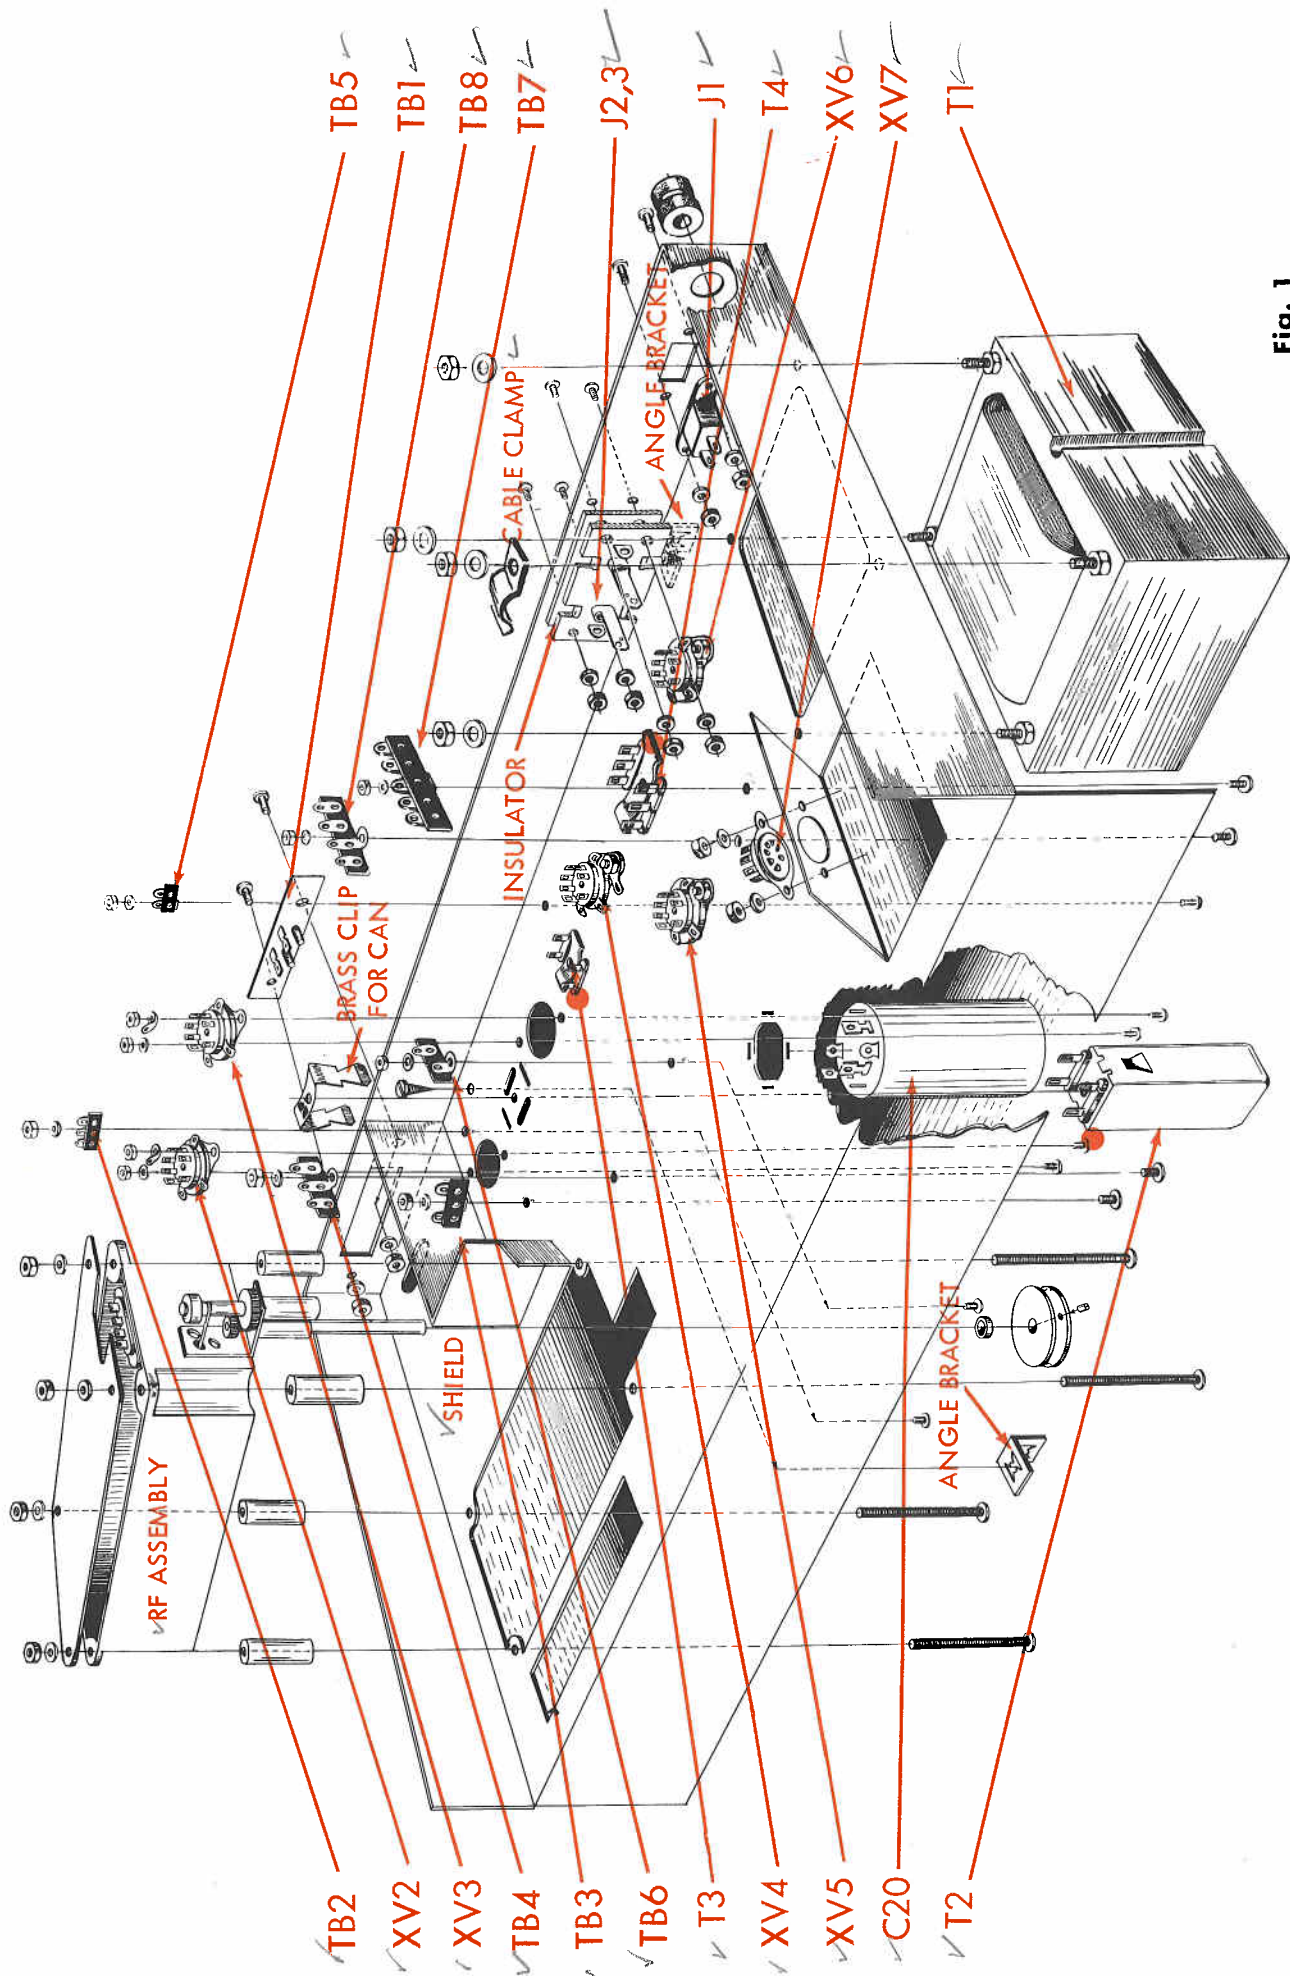
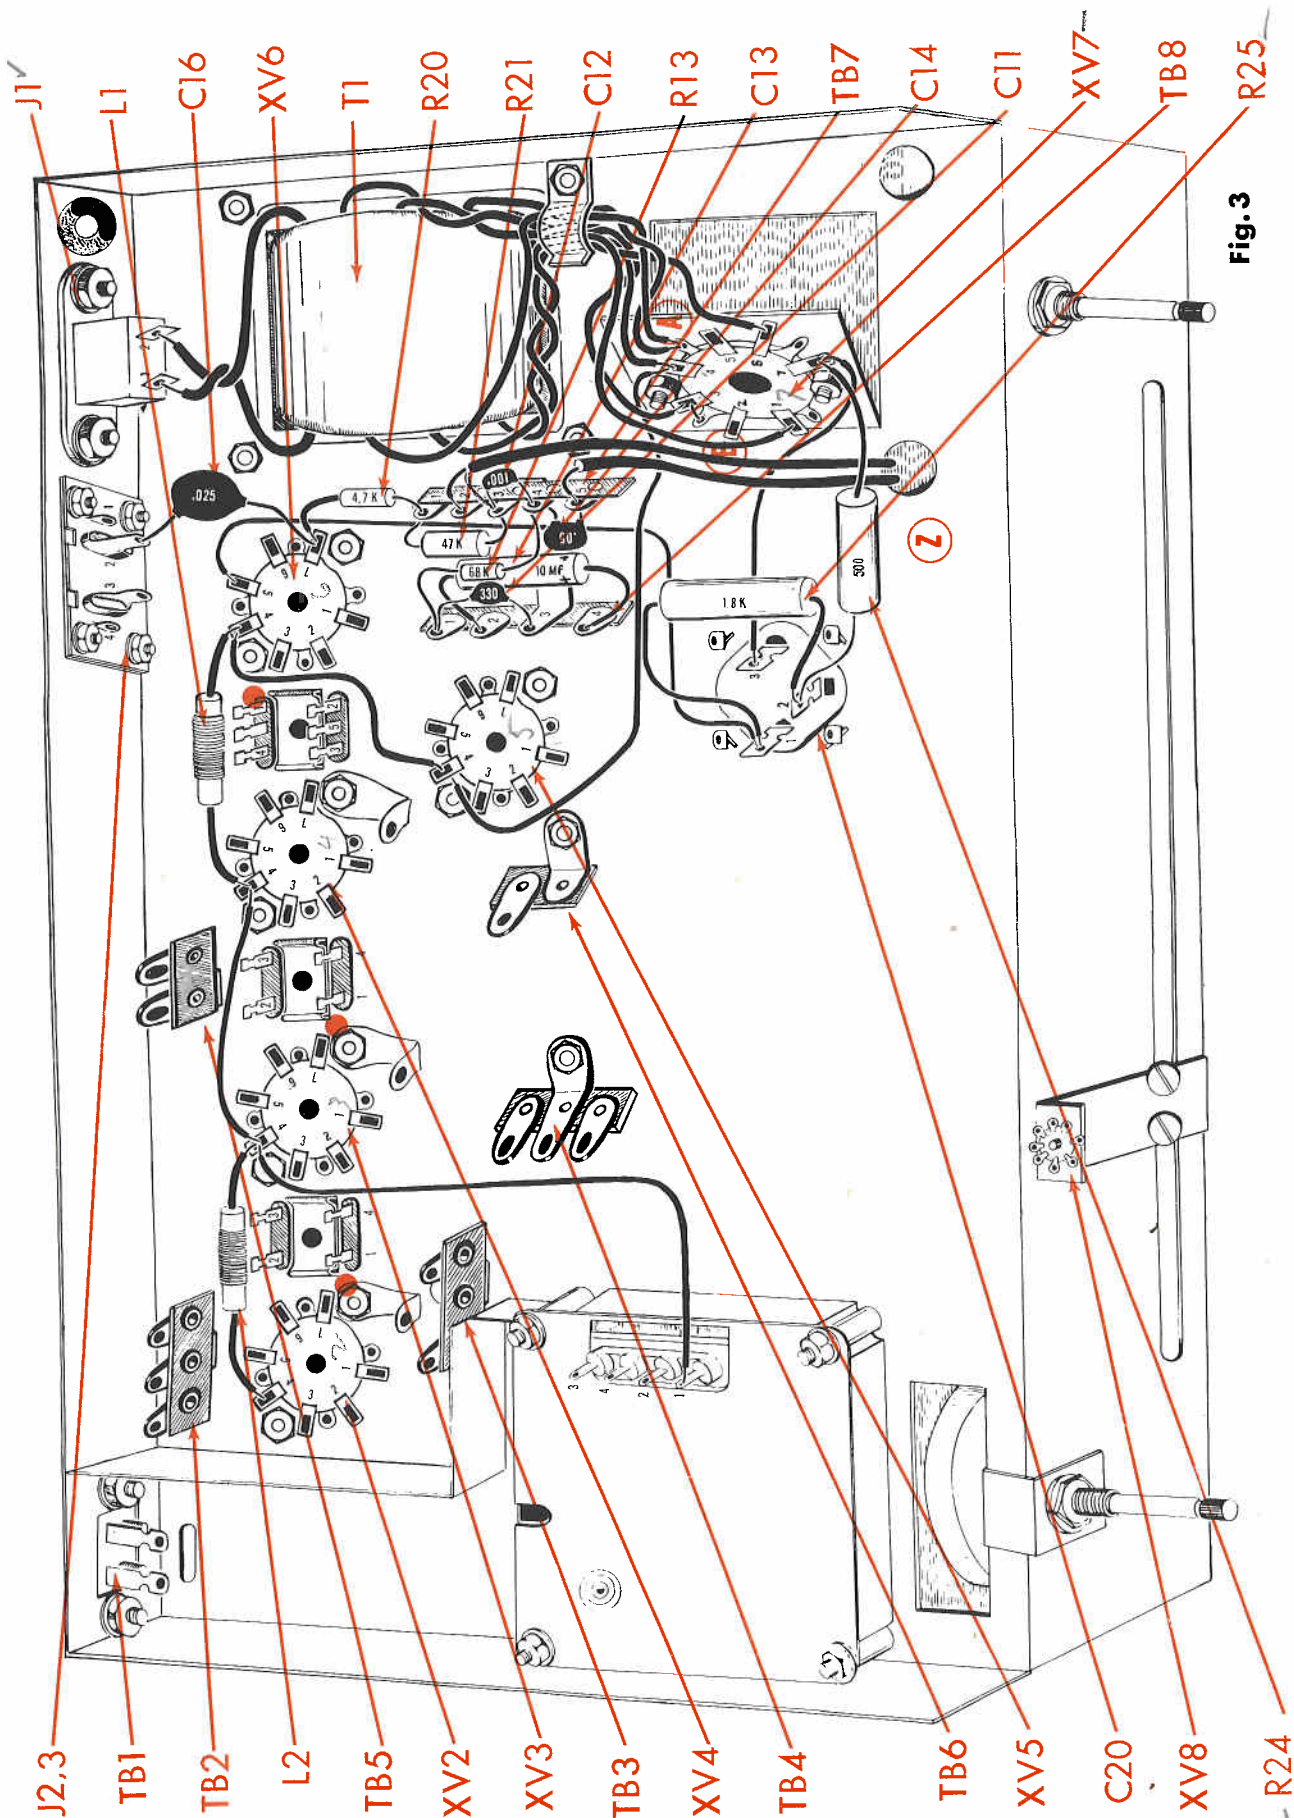

Fig. 1
Fig. 3
1. (✓) Fig. 1. Mount the power transformer, T1, as shown. Use 4 #8 lockwashers and 4 #8-32 hex nuts. Position the transformer so that the black leads are towards the rear of the chassis. When the leads on the transformer are wired, pay particular attention to the color of the lead and not to the exact physical placement on drawing. Position cable clamp as shown.
2. (✓) Fig. 1. Mount electrolytic can capacitor, C20, as shown. Note direction in Fig. 3. Twist all four tabs about 1/4 turn. Do not twist too much or the tabs will shear off. Solder one tab to chassis to assure a good ground contact.
3. (✓) Fig. 1. Mount 7 pin miniature tube socket, XV7, as shown. Use two #4-40 screws, two #4 lockwashers and two #4-40 hex nuts. (See Fig. 3)
4. (✓) Fig. 1. Mount 7 pin miniature tube sockets, XV2, XV3 and XV4, as shown. Use two #4-40 screws, one #4 lockwasher and two #4-40 hex nuts. Mount one #4 ground lug under one nut of each socket as shown.
5. (✓) Fig. 1. Mount 7 pin miniature tube socket, XV5 and XV6, as shown. Use two #4-40 screws, two #4 lockwashers and two #4-40 hex nuts.
6. (✓) Fig. 1. Mount the rectangular IF cans, T2, T3, and the rectangular ratio detector can, T4, as shown. Use special brass clip provided to hold each can. Position the cans so that the color dot (terminal 1) is as shown on Fig. 3. T2 - 34600, T3 - 34601, T4 - 34602. Each can is to be mounted using the following procedure. Orient the can as shown in figure 3. Push the plastic at the bottom of the can (in which the solder lugs are mounted) through the longer two of the four elongated slits (which surround the round hole). When this is done, the can stands on the top of the chassis. From the bottom of the chassis, insert the brass spring clip through the two remaining elongated slits, by spreading the clip apart slightly. Next, push one side of the clip up far enough so that it will catch in the "Y" shaped hole at the side of the can. Hold the can firmly against the top of the chassis with one hand. With the index finger of the other hand, working from the bottom of the chassis, push the clip up until it "clicks" into the remaining "Y" shaped hole in the other side of the can. Repeat this for each of the three cans.
7. (✓) Fig. 1. Mount convenience outlet, J1, as shown. Use two #6-32 screws, two #6 lockwashers and two #6-32 hex nuts.
8. (✓) Fig. 1. Mount dual output jack, J2, 3, as shown. Mount the bakelite insulator between the jack and the chassis. Use four #6-32 screws, four #6 lockwashers and four #6-32 hex nuts on each.
9. (✓) Fig. 1. Mount the shield in the position as shown. Twist the tabs about 1/4 turn. Do not twist too much or the tabs will shear off. Solder one tab to chassis to assure a good ground contact.
10. (✓) Fig. 1. Mount two screw terminal board, TB1, as shown. Use two #6-32 screws, two #6 lockwashers, and two #6-32 hex nuts. Mount the shield under one of the lockwashers as shown.
11. (✓) Fig. 1. Mount two post with ground terminal board, TB2; two post terminal board, TB3; two post with ground terminal board, TB4; one post left with ground, terminal board, TB5; one post right terminal board, TB6; four post with ground terminal board, TB7; and three post two right with ground terminal board, TB8, as shown. Use one #6-32 screw, one #6 lockwasher and one #6-32 hex nut on each.
12. (✓) Fig. 1. Mount the two angle brackets on the top, near the rear of the chassis as shown. Use one #8 self tapping screw on each.
13. (✓) Fig. 1. Mount the RF assembly as shown. Use four #6-32 x 1 1/8" screws, four 11/16" aluminum spacers, four #6 lockwashers and four #6-32 hex nuts. Before you place the RF assembly cover on the unit, be sure that the coaxial cable is passed thru the notch provided. Be extremely careful not to disturb any of the wires or components inside the assembly.
14. (✓) Fig. 1. Mount the 3/8" rubber grommet in the hole provided on the rear flange.
1. (X) Fig. 3. Cut the two black leads from the power transformer, T1, to 2 1/2". Twist once as shown. Connect one lead to convenience outlet J1-1 (C) and the other lead to J1-2 (C).
2. (X) Fig. 3. Connect a 5" piece of brown wire from XV7-4 (C) to XV5-4 (C).
3. (X) Fig. 3. Cut the two green leads on the power transformer, T1, to 5". Twist and pass under cable clamp as shown. Connect one lead to XV7-3 (C) and the other lead to XV7-4 (S).
4. (X) Fig. 3. Cut the two red leads on power transformer, T1 to 5". Twist and pass under cable clamp as shown. Connect one lead to XV7-1 (S) and the other lead to XV7-6 (S).
5. (X) Fig. 3. Cut the white lead on power transformer, T1 to 5" and the red-white lead to 4". Twist and pass under cable clamp as shown. Connect both leads to ground lug "A" (S) on XV7.
6. (X) Fig. 3. Connect a 1/2" piece of bare wire from XV7-3 (S) to ground lug "B" (S) on XV7.
7. (X) Fig. 3. Connect a 2 1/2" piece of red wire from XV7-7 (C) to C20-3 (S).
8. (X) Fig. 3. Strip the outer insulation back 3/4" at each end of the black single conductor cable. Twist the shield braid on each end. Strip the insulation 1/4" on the inner conductor of each end. Connect the inner conductor of one end to TB7-2 (C) and the shield braid of the same end to TB7-3 (C). Run the lead along the chassis as shown and push the remainder of the lead through hole "Z".
9. (X) Fig. 3. Strip the outer insulation back 3/4" at each end of the grey single conductor cable. Twist the shield braid on each end. Strip the insulation 1/4" on the inner conductor of each end. Connect the inner conductor of one end to TB7-5 (C) and cut off the shield braid of the same end. Run the lead along the chassis as shown and push the remainder of the lead through hole "Z".
10. (X) Fig. 3. Cut both leads on the 500 Ω , 5W, wire wound resistor, R24, to 1". Put a 3/4" piece of spaghetti over one end and connect to XV7-7 (S) and connect the other end to C20-2 (C). Dress away from shielded leads.
11. (X) Fig. 3. Cut one lead on the 1.8k Ω , 5W, wire wound resistor, R25 to 1" and the other lead to 1 1/2". Cover the shorter lead with a 3/4" piece of spaghetti and connect to C20-2 (C). Cover the other lead with a 1 1/4" piece of spaghetti and connect to C20-1 (C).
12. (X) Fig. 3. Connect a 3" piece of brown wire from XV5-4 (C) to XV6-4 (C).
13. (X) Fig. 3. Cut both leads on choke, L1, (one of the two larger chokes) to 1 1/4" and cover each with a 1" piece of spaghetti. Connect one lead to XV6-4 (S) and the other lead to XV4-4 (C). Do not press coil to chassis.
14. (X) Fig. 3. Connect a 3 1/2" piece of brown wire from XV4-4 (C) to XV3-4 (C).
15. (X) Fig. 3. Cut both leads on choke L2, (the other large choke) to 1 1/4" and cover each with a 1" piece of spaghetti. Connect one lead to XV2-4 (C) and the other lead to XV3-4 (C). Do not press coil to chassis.
16. (X) Fig. 3. Connect one end of a 6" piece of brown wire to XV3-4 (S) and the other end to terminal 1 (S) on the RF Assembly A1. Apply a minimum of heat to the terminal to prevent damage.